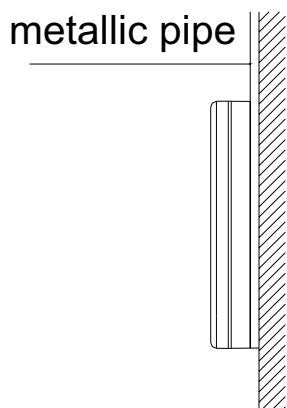
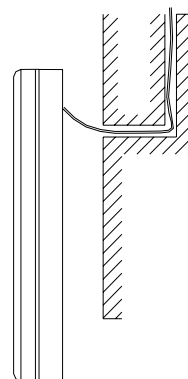

Fig.3.6.4
Fig.3.6.5
4. If the control wire between the wired remote controller and the indoor unit is surface-mounted, use 1# metallic pipe and make matching recess in the wall (Refer to Fig.3.6.4); If concealed installation is adopted, 1# metallic pipe can be used (Refer to Fig.3.6.5).